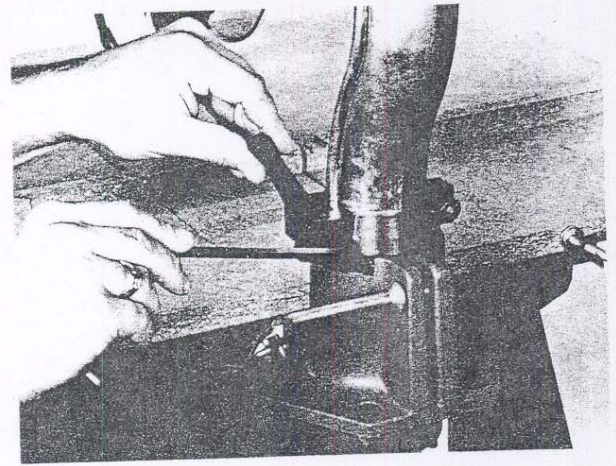

Fig. A5
Over a period of time the miter locking arm will wear and become loose on its mounting screws. These will have to be kept snug as any looseness will affect accuracy. These screws can be used to fine set for square cross cut. Loosen (2) 1/4-20 locking screws and loosen 1/2-20 screw in direction opposite direction arm is to move. Tighten opposite screw and lock screws in position. Check for squareness and repeat as necessary. Check for square cross cut any time there is adjustment in the screws (Fig. A5).